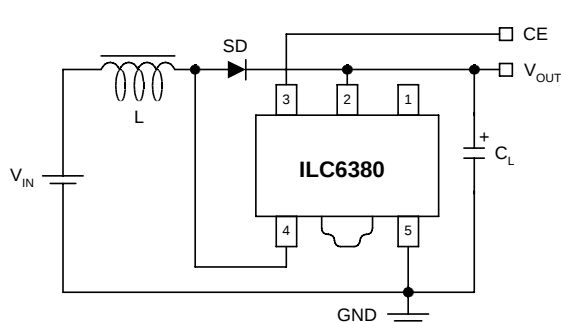

Figure 3
$V_{OUT} = 5.0\text{V}$, $F_{OSC} = 100\text{kHz}$, $T_A = 25^\circ\text{C}$. Unless otherwise specified, $V_{IN} = V_{OUT} \times 0.6$, $I_{OUT} = 50\text{mA}$. See schematic, figure 3
- The Schottky diode (S.D.), in figure 3 must be type MA735, with Reverse current (I_R) $< 1.0\mu\text{A}$ at reverse voltage (V_R) $= 10.0\text{V}$
1. The Schottky diode (S.D.), in figure 3 must be type MA735, with Reverse current (I_R) < 1.0 μA at reverse voltage (V_R)=10.0V